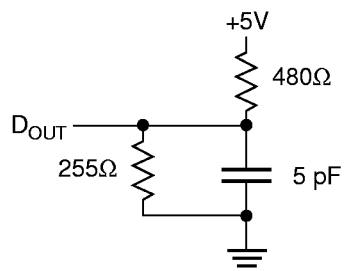

Figure 2. Output Load Equivalent
- The parameter is tested with CL = 5 pF as shown in Figure 2. Transition is measured ±200 mV from steady state voltage.